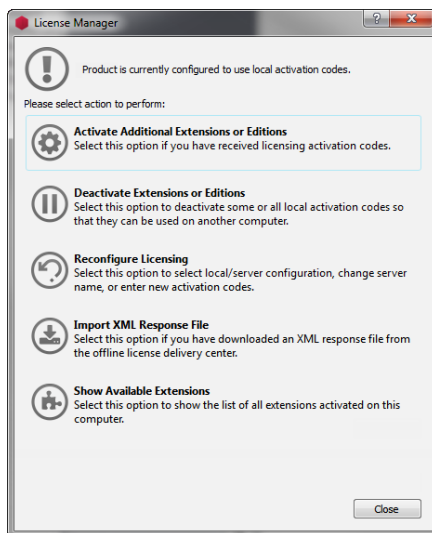

Figure 1.15: License Manager Dialog Offline
- Select *Help > License Manager* and click **Activate Additional Extensions or Editions** (see Figure 1.15).
- Open the *Help > License Manager* (see Figure 1.15)